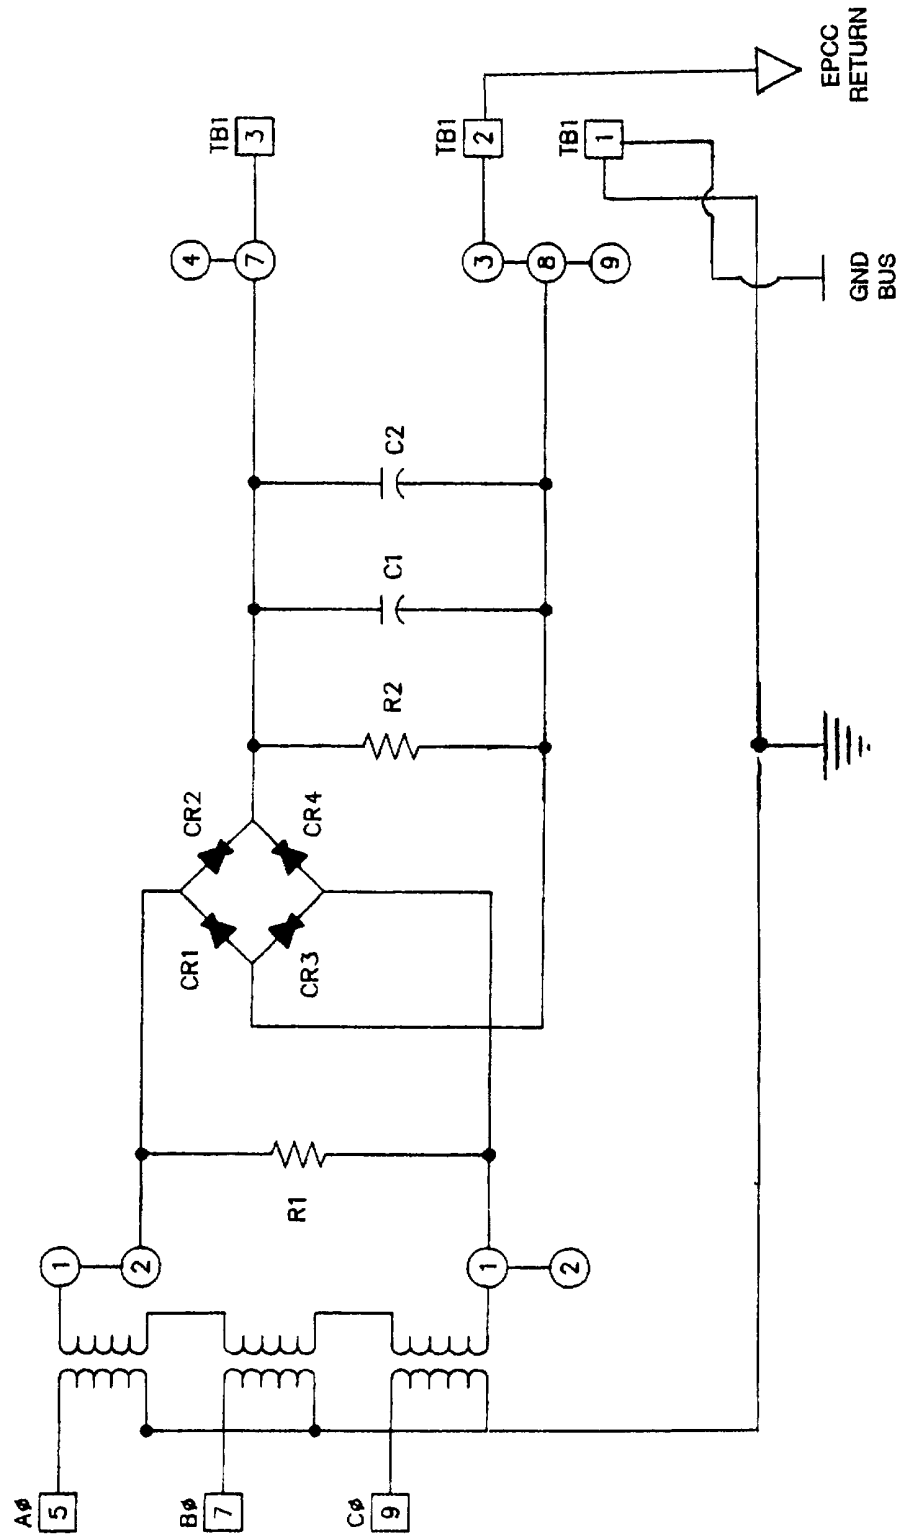

Figure 5-8. Bus Ground Detector Schematic
- a. Visually inspect unit for poor solder joints, solder splashes, incorrect components, and incorrect capacitor directions. See figure 5-8 for schematic.